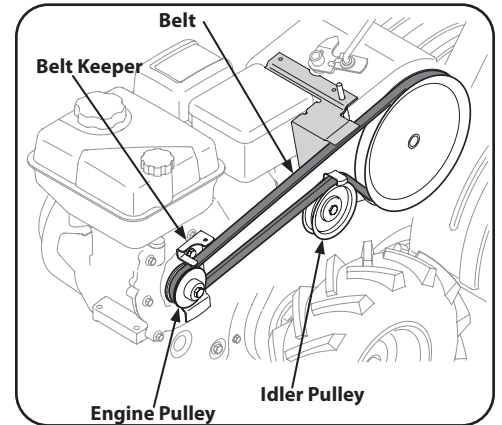

Figure 4-3
3. Remove the nut and washer from the front side of the belt cover. Remove the hex head screw at the back of the cover. See Figure 4-3.
4. Remove the belt keeper assembly located behind the engine pulley by removing the two hex bolts and lock washers. See Figure 4-3.
5. Remove the idler pulley by removing the bolt and nut. See Figure 4-3.
6. Remove the old belt and install the new belt. Follow the instructions in reverse order to re-install the belt keeper and belt cover. See Figure 4-3.